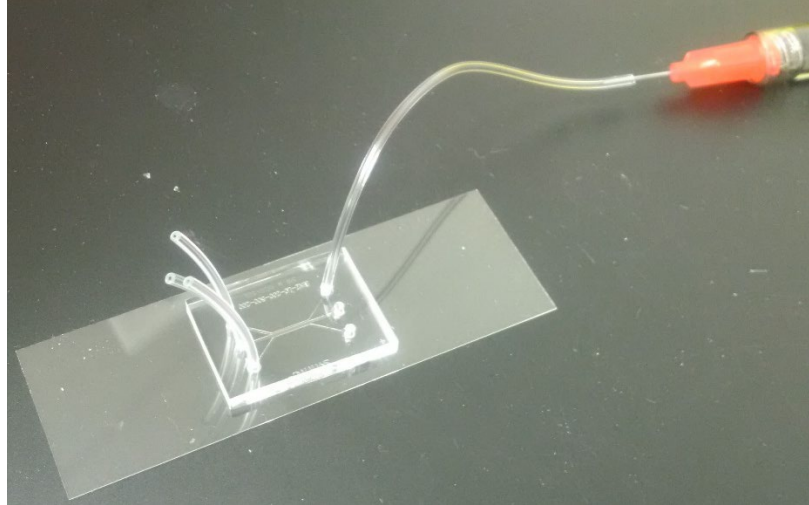

Figure 3. Perfusing a SynVivo linear device with PBS.
4. Fill the channel with 1X PBS or sterile water by pushing the solution through the channel until the outlet tubing is filled (Port B; **Figure 3**).